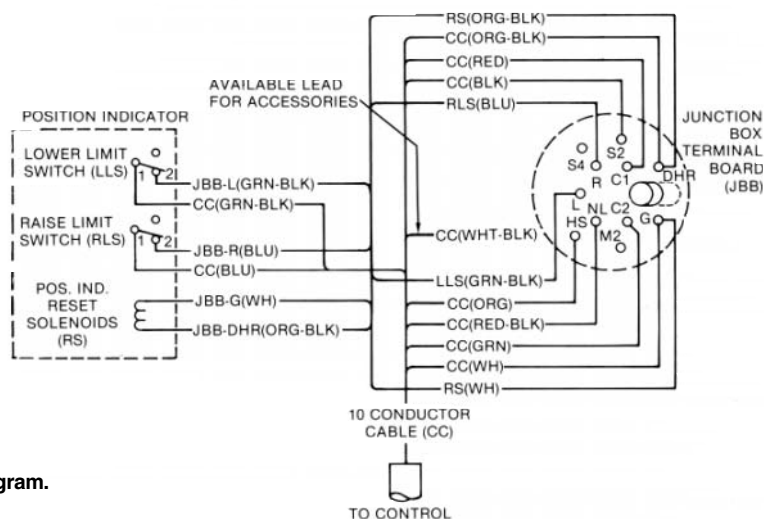

Figure 4-1.
The junction box is composed of a terminal board, the position indicator, and the control box interconnections. Refer to Figure 4-1, when the following steps are made:
10. Connect the six leads to the terminal board and control cable leads per Figure 4-1 and secure all connections.